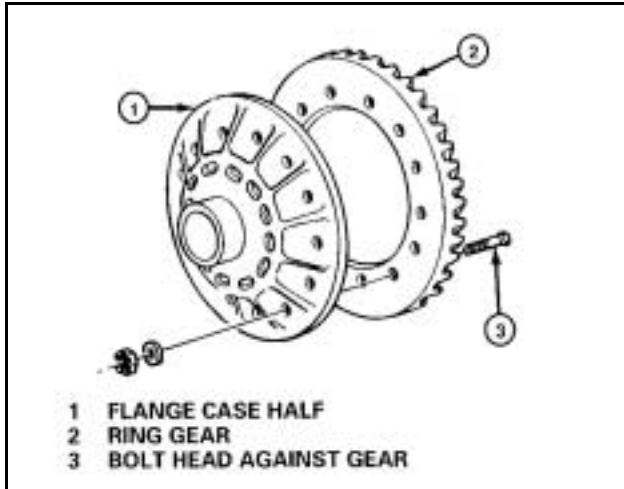

Figure 85
6. Install the bolts*, nuts* and washers* that hold the ring gear to the flange case half. Install the bolts from the gear side of the assembly. The bolt heads **must** be against the ring gear. **Figure 85.**